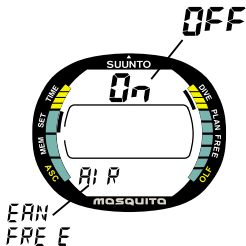

Fig. 4.8. Set Air/EAN/Free Mode. Enable/disable status blinks.
2. Wait two seconds until the Dive Setting Mode activates automatically. The enable/disable status [On/OFF] starts to blink on the display and the selected dive mode (AIR, EAN or FREE) is displayed (Fig. 4.8.).
2. Wait two seconds until the Dive Setting Mode activates automatically. The enable/disable status [On/OFF] starts to blink on the display and the selected dive mode (AIR, EAN or FREE) is displayed (Fig. 4.8.)